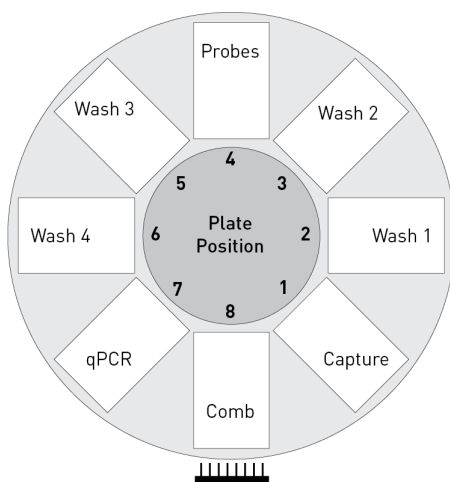

Figure 2 Plate positions in the turntable
2. Press **START** to initiate plate loading. Follow the prompts on the display screen to load each plate onto the turntable, starting with “Comb” (see Figure 2). Slide each plate into the plate hold-down (if present).